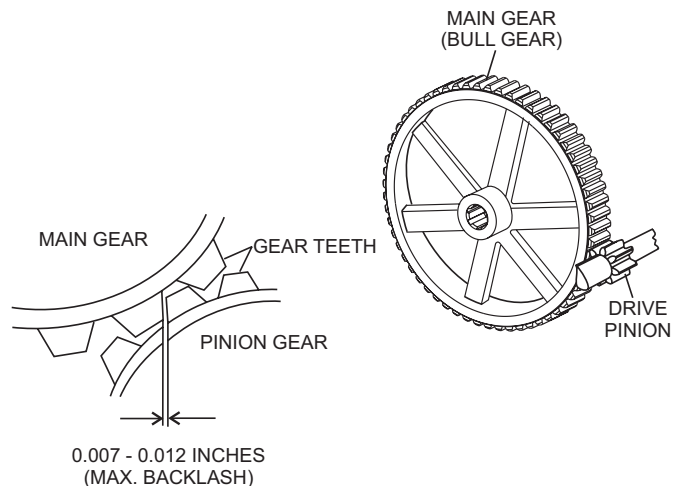

Figure 46. Drive Pinion and Main Gear (Backlash)
3. Using your hand, slightly move (rock) the drive pulley back and forth to determine the amount of backlash. Insert a feeler gauge between the gears to determine the backlash distance. Backlash should range between 0.007–0.012 inches (Figure 46).